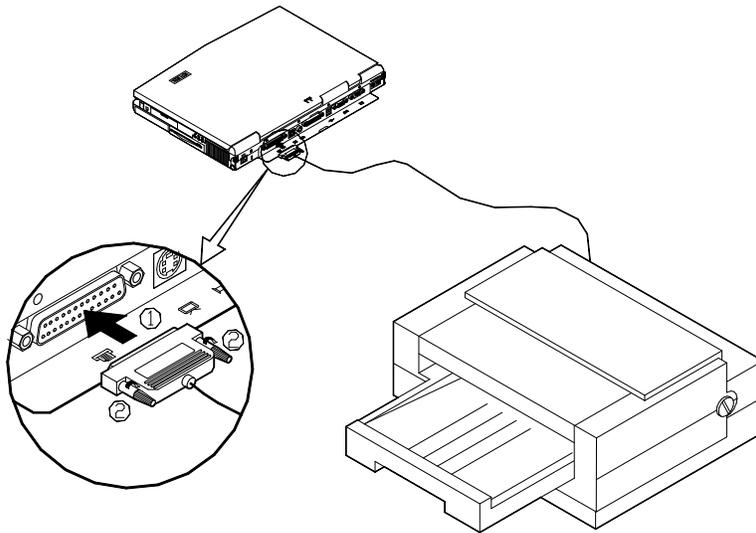

Figure 4-2
3. Tighten the screws that fasten the cable to the parallel port (Figure 4-2).